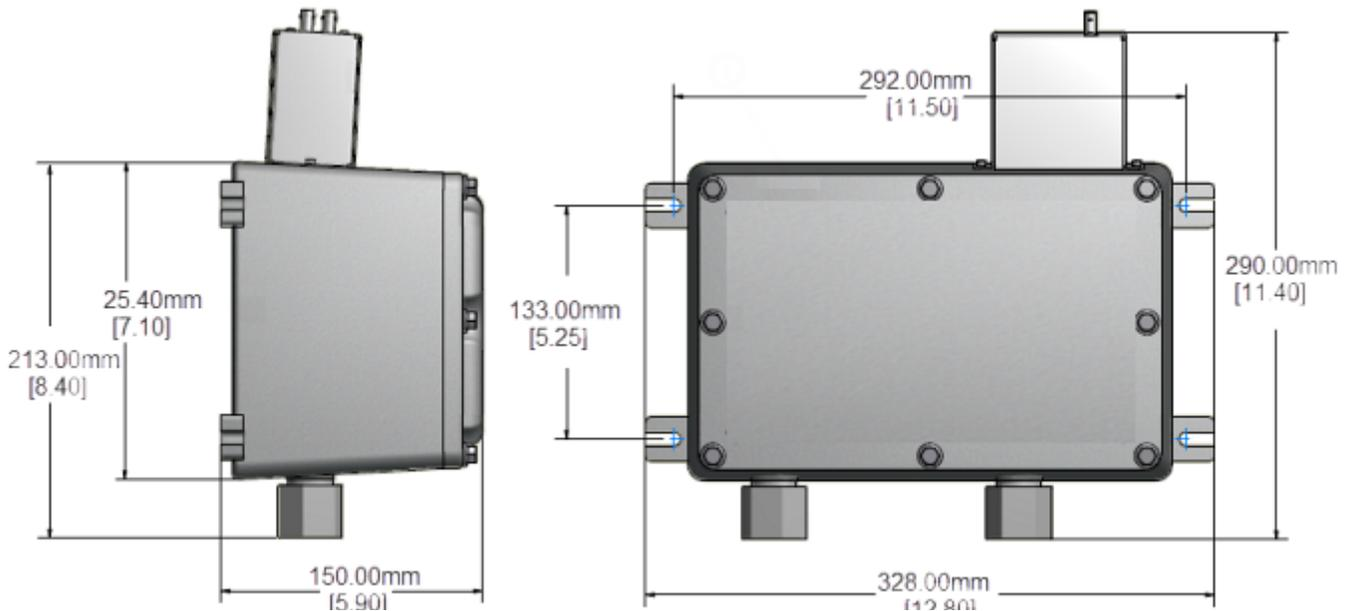

Figure 3-2 Breakout box dimensions: HL—ATEX (mm[inches])
For customers that own ReactIR 247 (HL), refer to NL component dimensions and then add the breakout box dimensions (Figure 3-2). Consider also that 10 feet of electrical conduit connect the breakout box and the ReactIR 247 base unit.